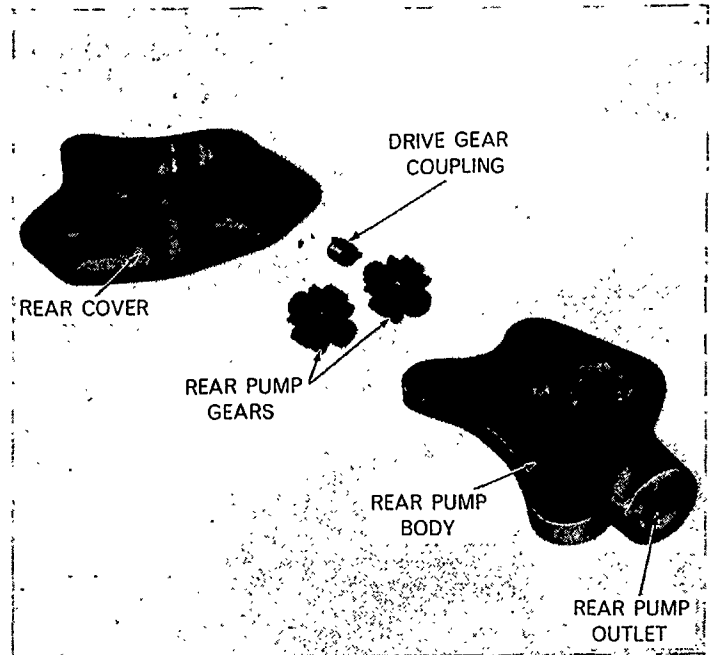

Figure 99
6. Position the small pump drive connector in its correct location on the shaped end of the upper, rear pump gear, Figure 99.